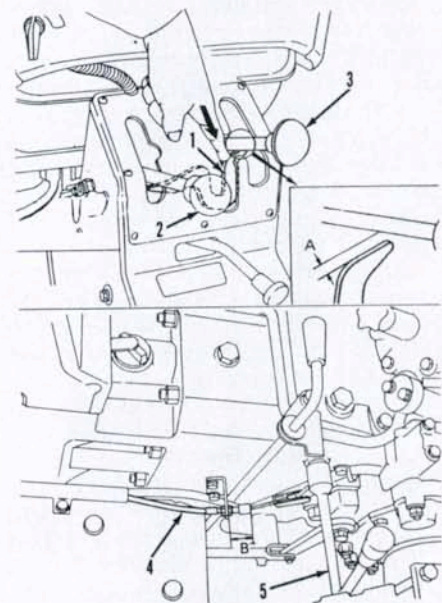

Fig. 108—A shift lockout lever (1) is used on Models L235 and L275 to prevent operating tractor in eighth speed when shuttle is in reverse.
To reinstall shift linkage, reverse the removal procedure. Adjust shift lever lockout cable (4—Fig. 108) as follows: Place range shift lever (5) in high speed position and shuttle lever (2) in reverse position. Push down lightly on lockout lever (1) and move main speed shift lever (3) to neutral position and to the right. There should be a gap (A) of 1-2 mm (3/64-5/64 inch) between lockout lever and shift lever. Adjust cable length (B) to obtain recommended lever setting. Be sure shift lever is free to go up into seventh speed position but cannot be moved down into eighth speed slot when